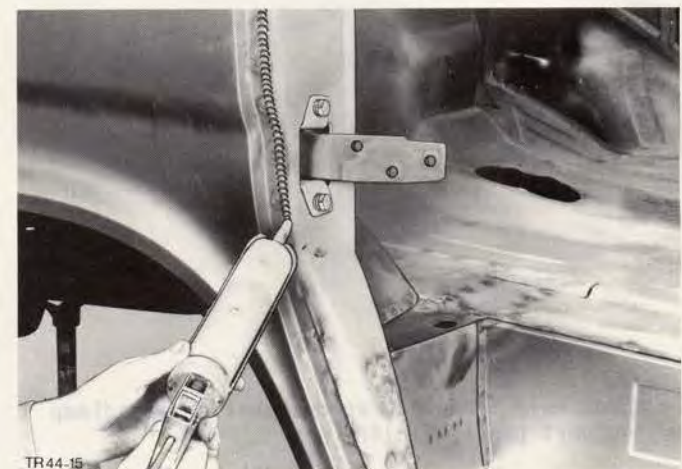

Fig.51. Seal fender at A pillar and apron panel.
19. Dress welds and seal fender at A pillar and apron panel using metal joint sealer, Fig.51. Then spray underseal on the inside.